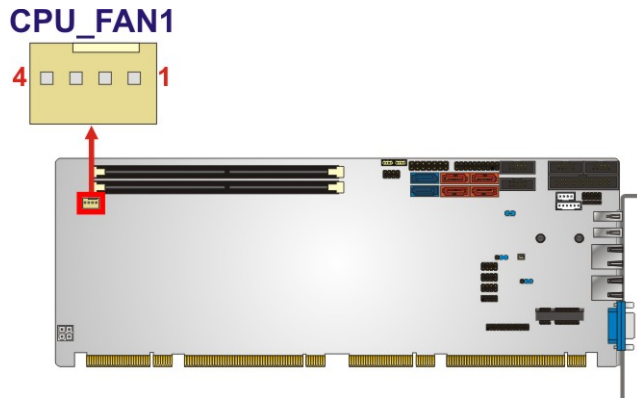

Figure 3-8: CPU Fan Connector Location
- CN Location:** See **Figure 3-8**